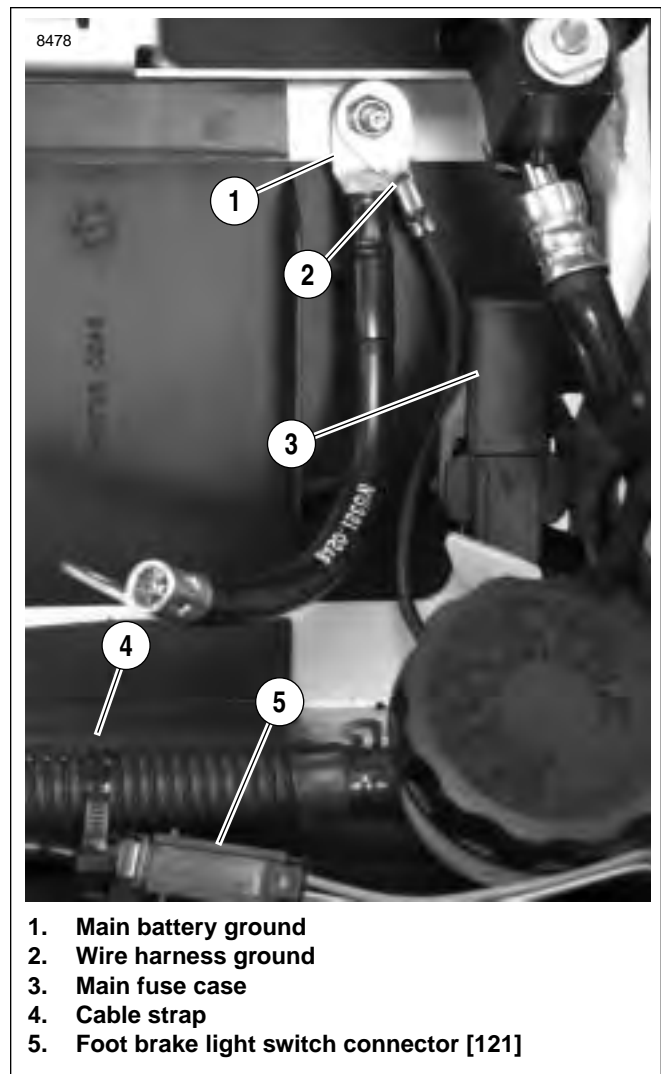

Figure 7-77. Battery Tray Wiring
8. See Figure 7-77. Remove wire harness ground (2).
9. Remove main fuse case (3).
10. Disconnect foot brake light switch connector [121] (5).
23. See Figure 7-77. Connect foot brake light switch connector [121] (5). Install cable strap (4).
24. Install main fuse case (3).
25. Install main battery ground (1) and wire harness ground (2). Tighten fastener to 48-72 **in-lbs** (5.4-8.1 Nm).